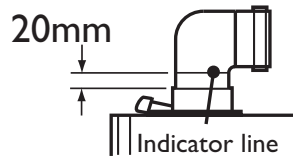

Fig. 46
2. Locate the flue elbow on the adaptor at the top of the boiler. Set the elbow to the required orientation (Fig. 47). The elbow is fully engaged when there is a distance of 20mm from the adaptor to the indicator line (Fig. 46).